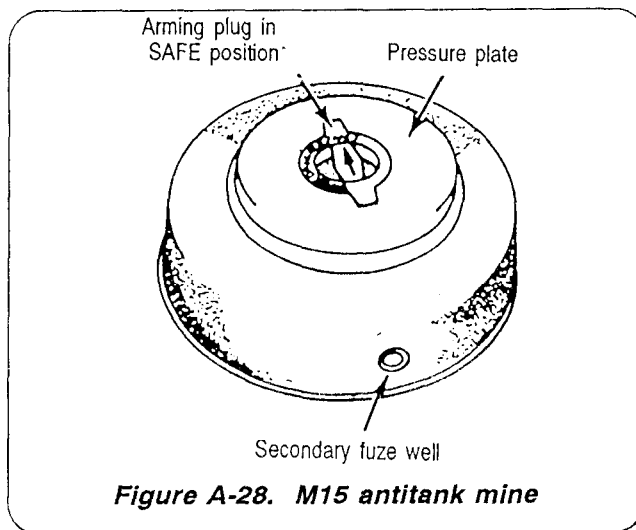

Figure A-28. M15 antitank mine
b. Use the M20 wrench to unscrew and remove the arming plug from the mine (Figure A-28).